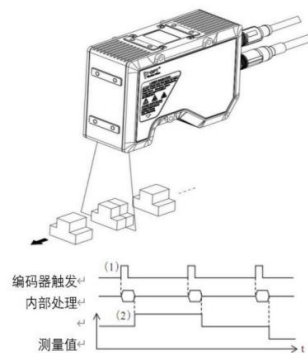

Figure 3.1.3 Encoder Triggered Acquisition
- **Encoder Mode:** Utilizes pulse signals from the encoder input terminals as trigger signals. Sampling is triggered and executed at any timing activation point, as shown in Figure 3.1.3.